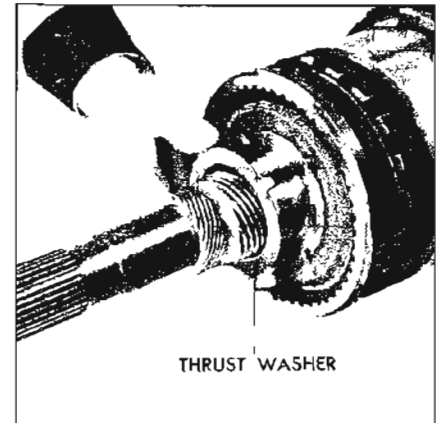

Figure 5-677
10. Turn assembly over and support so that the output shaft hangs downward. See Figure 5-677.